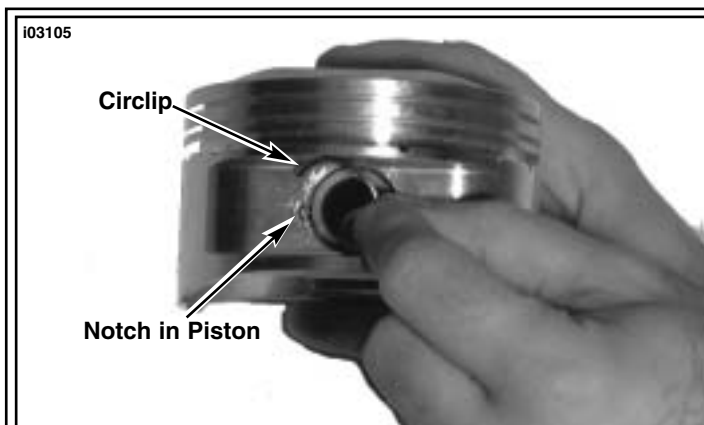

Figure 2.
1. See Figure 2. Insert open end of circlip into notched section of piston.